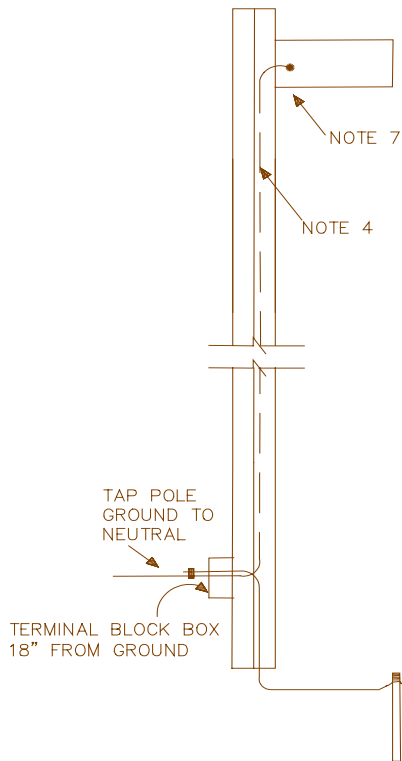

FIGURE 1
4. The luminaire should be bonded by a ground wire to the terminal box at the base of the pole. (See figures 1, 2, & 3)